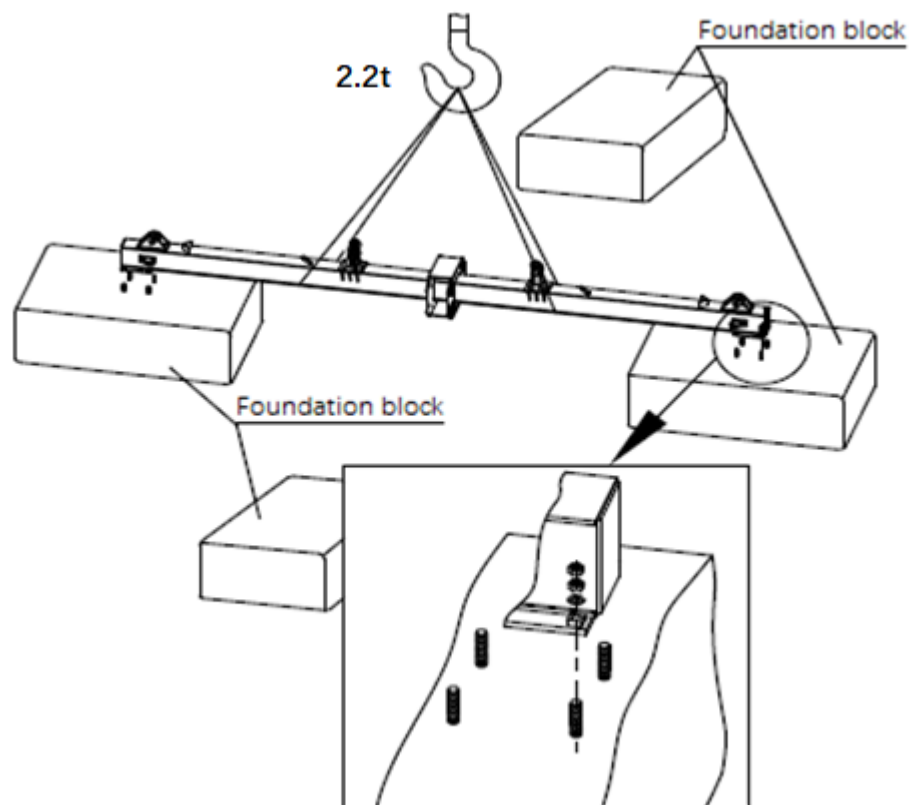

Fig. 4-59 Installing the long cross beam
- Put the long cross beam on the foundation and fixed with bolts, see Fig. 4-59.